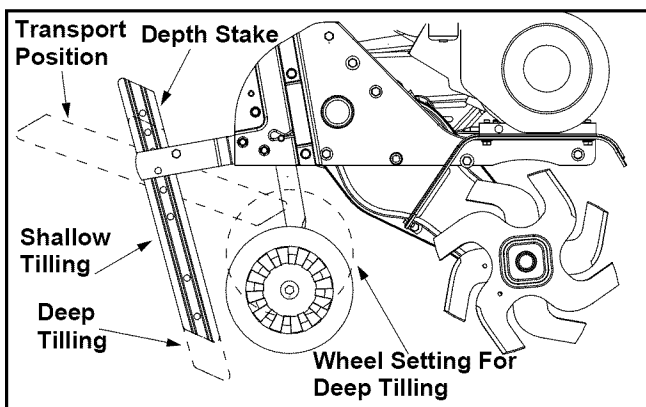

Figure 7
By increasing the depth of the depth stake, the forward speed of the machine is reduced and the working depth is increased. When the depth stake is raised, the working depth of the machine is reduced and the forward speed is increased. The working depth of the machine may be predetermined by setting the depth stake and wheels so that the wheels are about four inches from the ground when the tines and depth stake are resting on the ground. This setting will permit a working depth of about four inches. When presetting the working depth, the handles should be adjusted so the hand grips are a little above waist. The tiller will be lower when the tines and depth stake penetrate the ground. See Figure 7.
- To transport the tiller to or from the garden, pivot the depth stake forward and out of the way. With the throttle control in SLOW position, the unit will walk freely on the lawn. If the operator does not allow the tiller to move freely, the unit will start to till the surface. Refer to Figure 7.